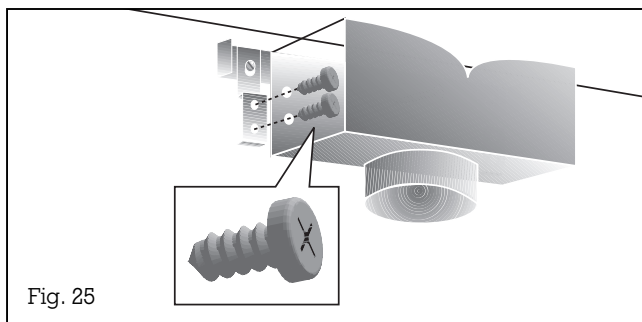

Fig. 25
- Screw together the air guidance housing and screw it onto the two retaining brackets (Fig. 25).